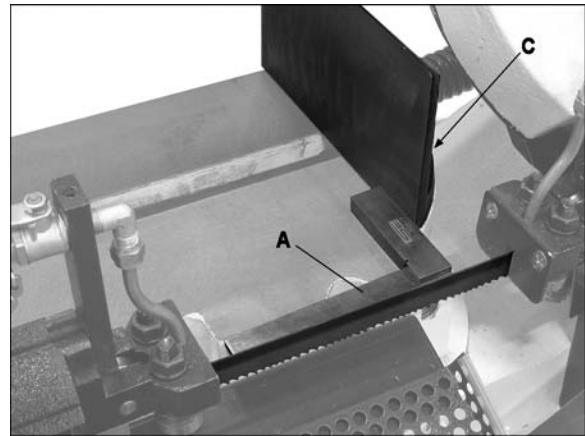

Figure 15
2. Place a machinist's square (A, Figure 15) on the bed against the blade and the fixed vise jaw. The square should lie along entire length of jaw and blade without a gap.
3. If adjustment is necessary, loosen screws holding vise (C, Figure 15) and shift vise until it aligns with square.